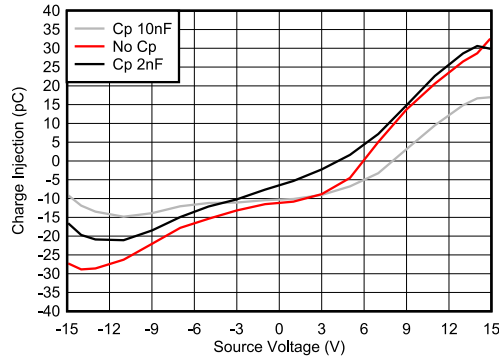

图 8-2. Charge Injection Compensation
The TMUX620x contain specialized architecture to reduce charge injection on the Drain (D). To further reduce charge injection in a sensitive application, a compensation capacitor ( $C_p$ ) can be added on the Source ( $S_x$ ). This will ensure that excess charge from the switch transition will be pushed into the compensation capacitor on the Source ( $S_x$ ) instead of the Drain (D). As a general rule of thumb,  $C_p$  should be 20x larger than the equivalent load capacitance on the Drain (D). 图 8-2 shows charge injection variation with different compensation capacitors on the Source side. This plot was captured on the TMUX6219 as part of the TMUX62xx family with a 100pF load capacitance.